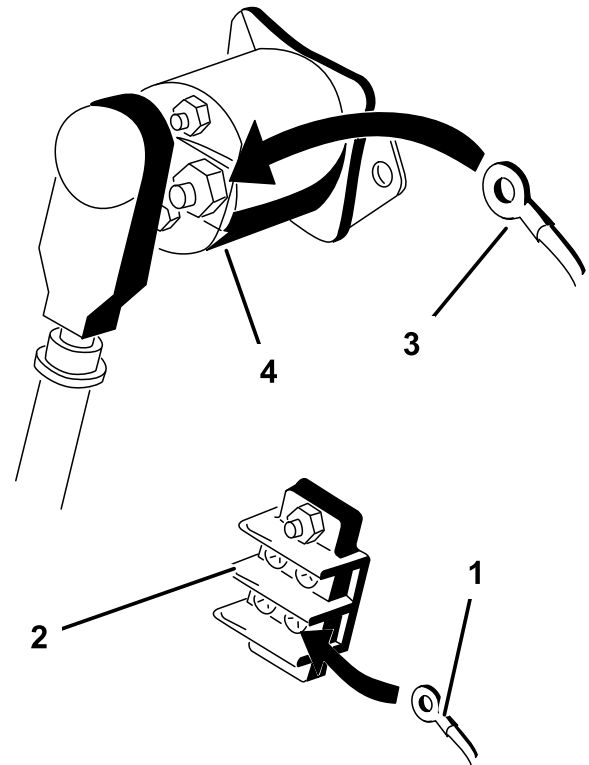

Figure 17
3. Connect the ring labeled ground on the black wire to the ground terminal block (Figure 17).